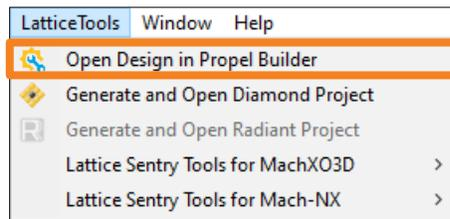

Figure 3.10. LatticeTools Menu
- Choose **LatticeTools** > **Open Design in Propel Builder** (Figure 3.10).